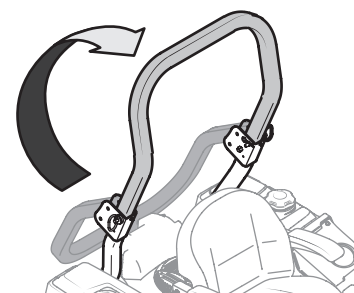

Figure 4
1. Remove the left and right clevis pins and cotter pins securing the ROPS in position and rotate it so that they allow the ROPS to move freely. See Figure 4.